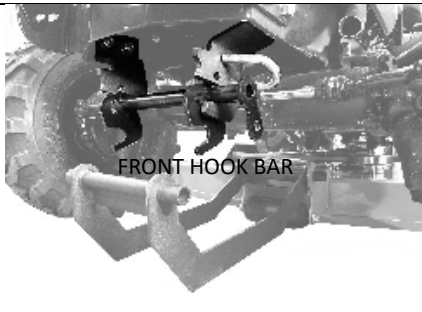

Figure 8C
7. Place the Front Hook Bar (item 3) into the Front Pull Bar Hangers (items 10 & 11) as indicated in figure 8C.